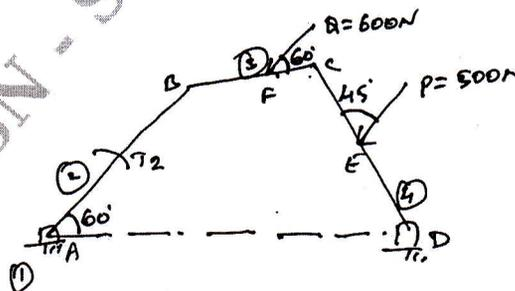

Fig. Q4
- 4 A four bar mechanism under the action of 2 external forces as shown in Fig. Q4. Determine torque applied on AB for static equilibrium. AB = 50 mm, BC = 66 mm, CD = 55 mm, CE = 25 mm, CF = 30 mm,  $\angle BAD = 60^\circ$ , AD = 100 mm.